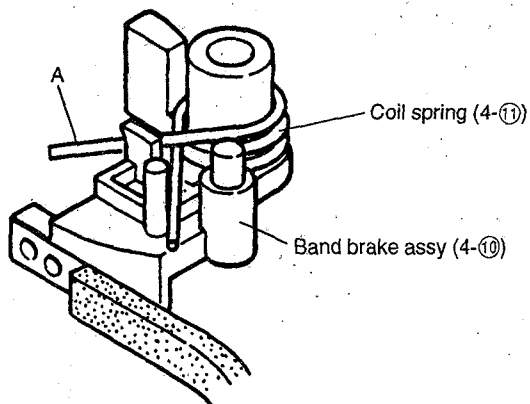

Fig. 7
- 1) Before installing Band brake assy (4-10), fit Coil spring (4-11) to Band brake assy (4-10) as shown in Fig. 7.